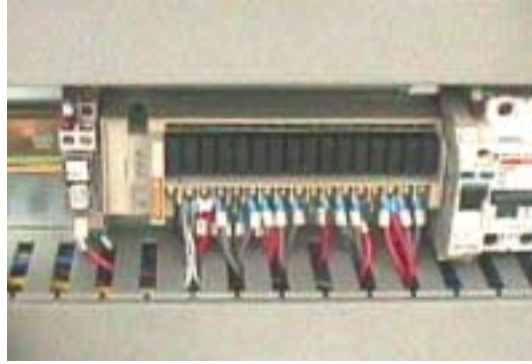

Fig 4.2 PLC Output module
- Ensure that PLC output **10.10** is **OFF**. The PLC output should be 10. See fig 4.2.